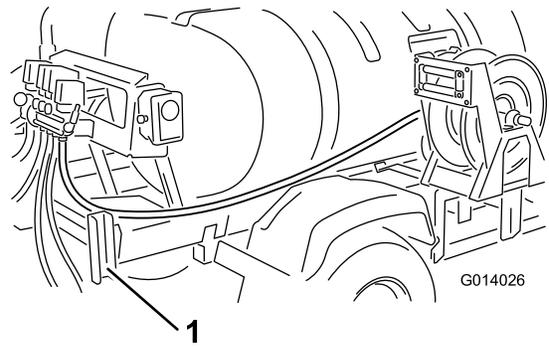

Figure 12
7. Route the hose around the mount frame to the hose reel valve installed previously (Figure 12).
6. Route the hose rearward along the tank skid frame, inside of the right rear fender inside the boom support channel (Figure 12).